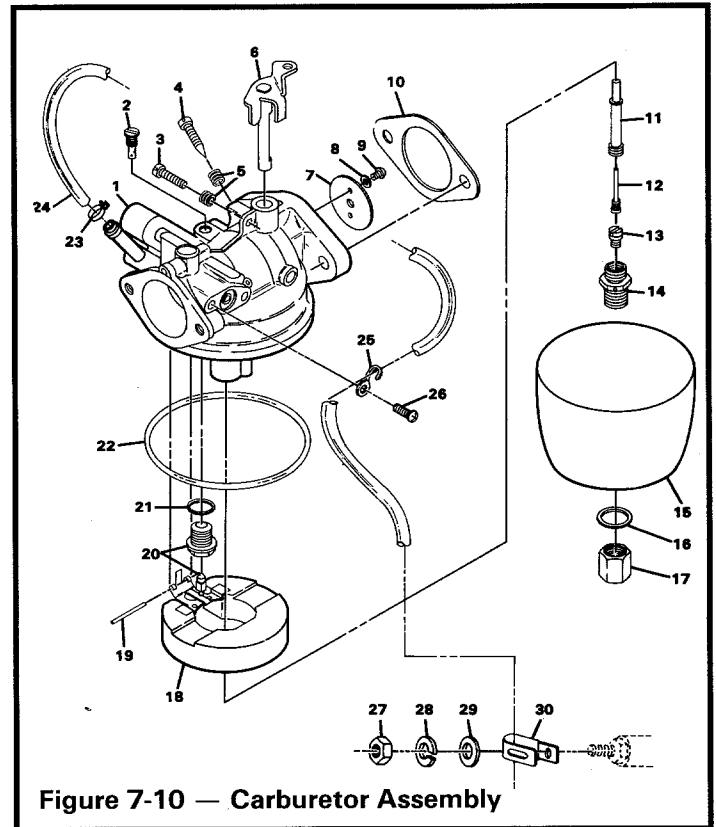

Figure 7-10 — Carburetor Assembly
1. Place a container underneath fuel bowl to catch fuel. Remove the nut (17) (Figure 7-10) and gasket (16) on the bottom of the fuel bowl. Remove fuel bowl (15). Dispose of fuel properly. Clean fuel bowl before reinstalling. See Inspection and Cleaning of Carburetor.
2. Remove main jet holder (14) with a 13mm wrench.
3. Remove main jet (13) from holder (14) with a screwdriver.
4. Replace main jet (13) with proper jet. (See Chart.) Screw jet in holder and tighten to 15-17 in.-lbs. torque.
5. Reinstall the main jet holder (14) into carburetor. Tighten jet holder to 115-127 in.-lbs. torque.
6. Reinstall fuel bowl with detent directly below fuel inlet. Make sure gasket (22) is seated properly, then put the gasket (16) and nut (17) back on. Be sure fuel bowl is centered and seated to gasket. Tighten nut to 7 ft.-lbs. torque.
1. Place a container beneath fuel bowl to catch fuel. Remove cap nut (17) and gasket (16), remove float bowl (15) (Figure 7-10).
2. Remove float shaft (19), float (18), float valve and seat (20) and gasket (21).